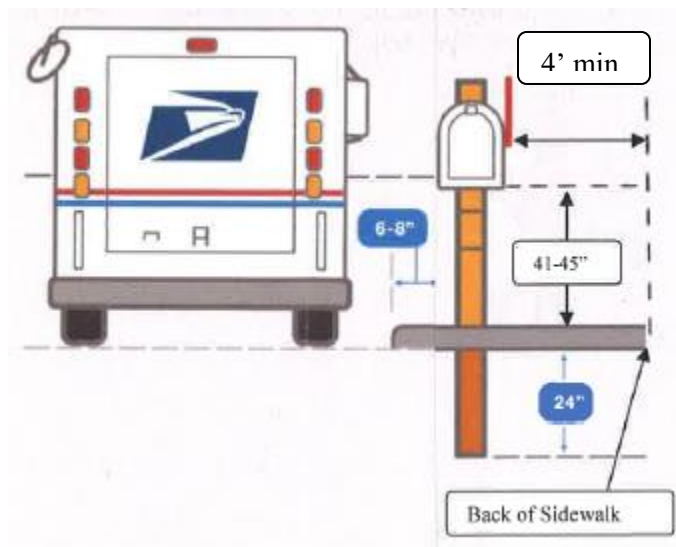

Figure 2 – Parallel Mailbox Installation
- If located in a sidewalk, there must be at least 4' of clear space for walking/accessibility between the back of the mailbox and the edge of the sidewalk. In some cases, it may require that the mailbox is oriented as shown in Figure 2.